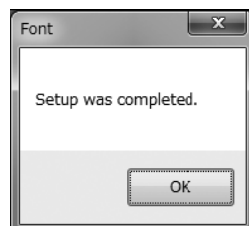

Fig.86
- ⑤ Click "OK" to change the settings to the selected values, and then click the "OK" button in the displayed message box (Fig. 86) to complete the setting process.